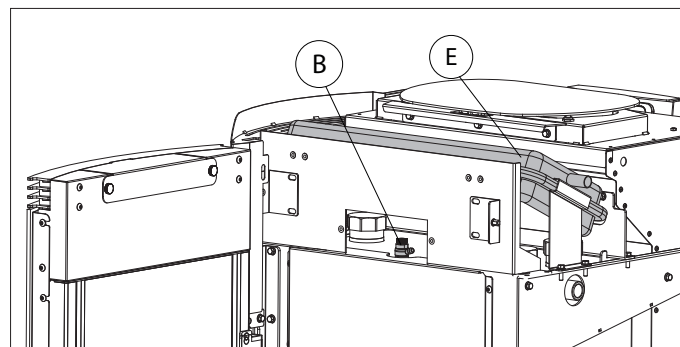

Fig. 6.3.1
6.3.1 Hydraulic circuit description (Fig. 6.3.1/2)
6.3.2 Hydraulic connections (Fig. 6.3.1/2)
1) Connect a water pipe coming from the water mains to the filling tap L, open the vent valve B (Fig. 6.3.1), open the filling valve M, making the water flow until the stove is completely filled. Close the vent valve and wait for the minimum operating pressure (1 bar) to be reached, which can be checked from the pressure gauge on the stove.
Then open the vent valve B (Fig. 6.3.1), open the bypass valve on the anti-condensation valve N, making the water flow from the system until the stove is completely filled. Close the vent valve and wait for the minimum operating pressure (1 bar) to be reached, which can be checked from the pressure gauge on the stove.